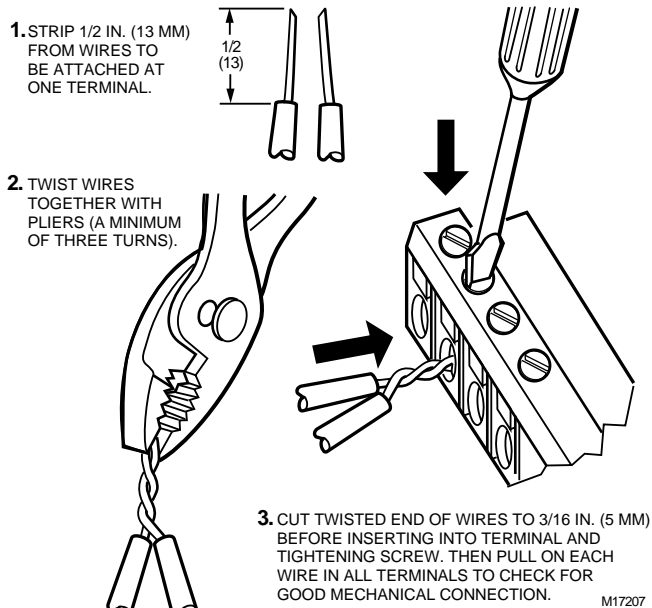

Fig. 25. Attaching two or more wires at terminal blocks.
**NOTE:** For field wiring, when two or more wires, other than 14 AWG (2.0 mm2) are to be attached to the same connector block terminal, be sure to twist them together. Deviation from this rule can result in improper electrical contact. See Fig. 25.
Fig. 35. W7750C Controller with 4-to-20 mA heating, cooling and economizer wiring diagram. AOs must use terminals 16, 17 or 18. The AOs can be set to be reverse acting. (For more information on note 2, refer to Fig. 25.)